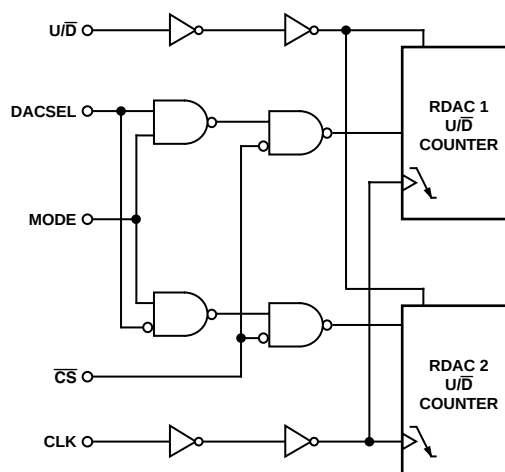

Figure 30. Detailed Digital Logic Interface Circuit
The AD5222 contains a push-button controllable interface. The active inputs are clock (CLK), $\overline{\text{CS}}$ and up/down ($\text{U}/\overline{\text{D}}$). While the MODE, and DACSEL pins control common updates or individual updates. The negative-edge sensitive CLK input requires clean transitions to avoid clocking multiple pulses into the internal UP/DOWN counter register, Figure 30. Standard logic families work well. If mechanical switches are used for product evaluation a flip-flop or other suitable means should debounce them. When $\overline{\text{CS}}$ is taken active low, the clock begins to increment or decrement the internal up/down counter, dependent upon the state of the $\text{U}/\overline{\text{D}}$ control pin. The UP/DOWN counter value (D) starts at 40_{H} at system power ON. Each new CLK pulse will increment the value of the internal counter by 1 LSB until the full-scale value of $7F_{\text{H}}$ is reached, as long as the $\text{U}/\overline{\text{D}}$ pin is logic high. If the $\text{U}/\overline{\text{D}}$ pin is taken to logic low, the counter will count down, stopping at code 00_{H} (zero-scale). Additional clock pulses on the CLK pin are ignored when the wiper is at either the 00_{H} position or the $7F_{\text{H}}$ position. The detailed digital logic interface circuitry is shown in Figure 30.